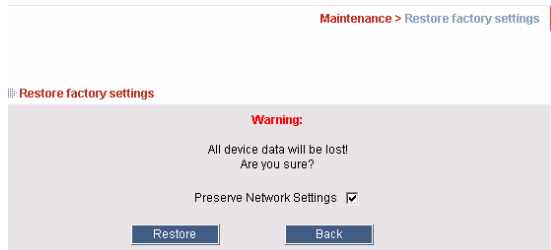

Figure 19 Restore factory settings
1. From the menu select **Restore Factory Settings**. Restore Factory Settings appears see Figure 19.